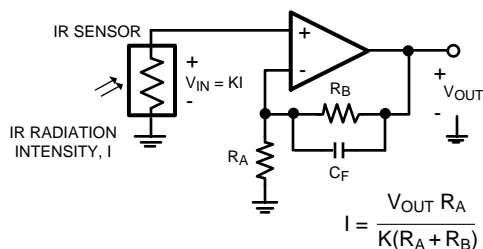

Figure 64. IR Radiation Sensor
The low input bias current and low input referred noise of the LMV791 and LMV792 make them ideal for sensor interfaces. These circuits are required to sense voltages of the order of a few μV , and currents amounting to less than a nA, and hence the op amp needs to have low voltage noise and low input bias current. Typical applications include infra-red (IR) thermometry, thermocouple amplifiers and pH electrode buffers. Figure 64 is an example of a typical circuit used for measuring IR radiation intensity, often used for estimating the temperature of an object from a distance. The IR sensor generates a voltage proportional to I , which is the intensity of the IR radiation falling on it. As shown in Figure 64, K is the constant of proportionality relating the voltage across the IR sensor (V_{IN}) to the radiation intensity, I . The resistances R_A and R_B are selected to provide a high gain to amplify this voltage, while C_F is added to filter out the high frequency noise.